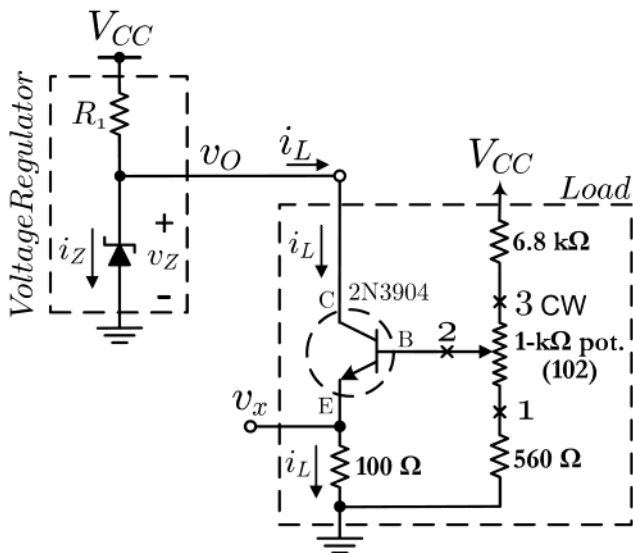
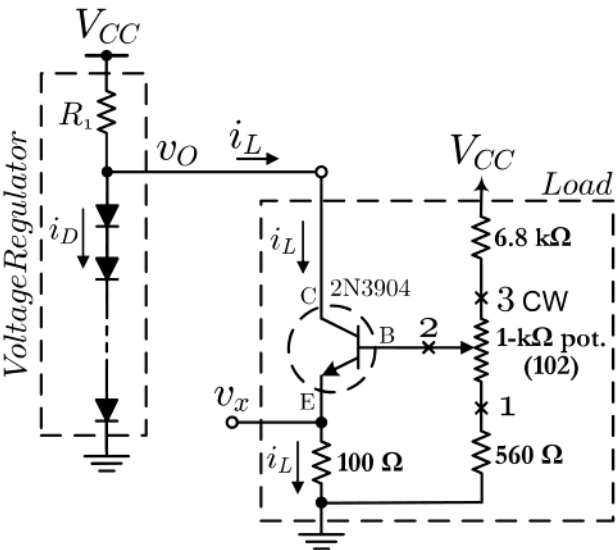

Figure 7. A Zener-diode-based voltage regulator supplying the adjustable load of Figure 3.
Figure 8. A diode-based voltage regulator supplying the adjustable load of Figure 3.
E3. Turn off the power supply, and replace R_2 with a 1N4735, 6.2-V Zener diode, as shown in **Figure 7**. Then repeat experiment **E2** with the new circuit. Complete **Table E3**, then plot v_o versus i_L and present the curve as **Graph E3**.
Table E3. Output voltage as a function of load current in the circuit of **Figure 7**.
E4. Turn off the power supply, and replace R_2 with a string of series-connected **1N4148** diodes, as shown in **Figure 8**, to achieve an output voltage of about 6.3 V. Assuming a forward voltage drop of about 0.7 V for each diode, this should take more or less 9 diodes. Therefore, with the load not yet connected, insert as many diodes in series as you need to get closest to the desired (no-load) output voltage of 6.3 V. Then, connect the load and repeat experiment **E2** with the new circuit. Complete **Table E4**, plot v_o versus i_L , and present the curve as **Graph E4**.
Table E4. Output voltage as a function of load current in the circuit of **Figure 8**.
- C5. Aside from their voltage regulation performance, how are the Zener-diode-based voltage regulator of **Figure 7** and the diode-based voltage regulator of **Figure 8** compared?